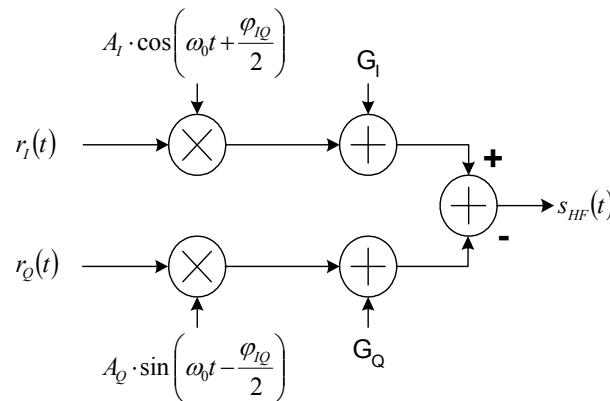

Fig. 19 Basic model of possible IQ impairment parameters in complex up converter devices.
In RF devices including analog mixers such as up-converter, the analog complex base band signal ( $r(t)=r_I(t)+j \cdot r_Q(t)$ ) is shifted to a real high frequency signal ( $s_{HF}(t)$ ) (Fig. 19). Each non-ideal complex mixer adds IQ impairments to the base band signal. Two of them, the IQ offset and the IQ imbalance are estimated by the R&S FS-K73. Both values are given in the Result Summary display. The estimation and display of IQ offset and IQ imbalance do NOT depend on the status of the NORMALIZE ON/OFF key. The key only controls an algorithm which compensates the IQ offset to normalize the constellation diagram to the origin.
**IQ Imbalance** The IQ imbalance is given in the Result Summary display. It represents a complex gain error between the mixer gain in the I path and the mixer gain in the Q path. We assume that a base band signal  $r(t)$  is multiplied by a complex analog oscillator with radian frequency  $\omega_0=2\pi * f_0$  Fig. 19). The complex signal  $r(t)$  can be split into a real part  $\{r_I(t)\}$  and an imaginary part  $\{r_Q(t)\}$ . Using this assumption, an ideal complex local oscillator ( $LO_{ideal}$ ) can also be described by two real sinusoidal signals with a phase offset of  $90^\circ$ . These signals are described as  $\cos(\omega_0 t)$  and  $\sin(\omega_0 t)$ .
The local oscillator is not ideal in an analog mixer. Normally there are two different amplitude values ( $A_I$  and  $A_Q$ ) in each (Fig. 19) path. Moreover, an unwanted phase shift ( $\varphi_{IQ}$ ) between the real part and the imaginary part of the local oscillator ( $LO_{impairment}$ ) may occur. Considering these impairments a non ideal LO can be described as follows: